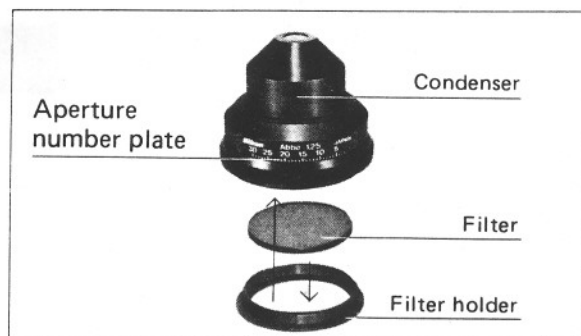

Fig. 9
- 1) Place the blue filter into the filter holder. (Fig. 9)